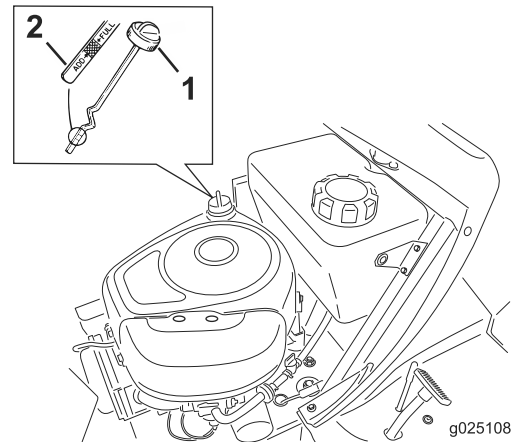

Figure 23
7. Clean around the dipstick (Figure 23) so that dirt cannot fall into the filler hole and damage the engine.
8. Unscrew the dipstick and wipe the metal end clean (Figure 23).
9. Screw the dipstick fully onto the filler tube (Figure 23).
11. Clean around the dipstick and unscrew the cap (Figure 23).
12. Slowly pour approximately 80% of the engine oil into the filler tube (Figure 23).